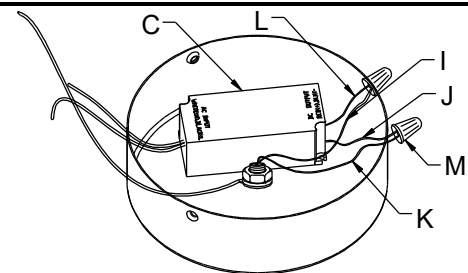

Fig. 3
### CONNECTING THE WIRES (Fig. 3)
6. Connect electrical wires as shown in fig 3, making sure that all wire connectors are secured. If your junction box has a ground wire (green or bare copper), connect the fixture's ground wire to it. Otherwise, connect the fixture's ground wire directly to mounting plate (A) using the green screw provided.